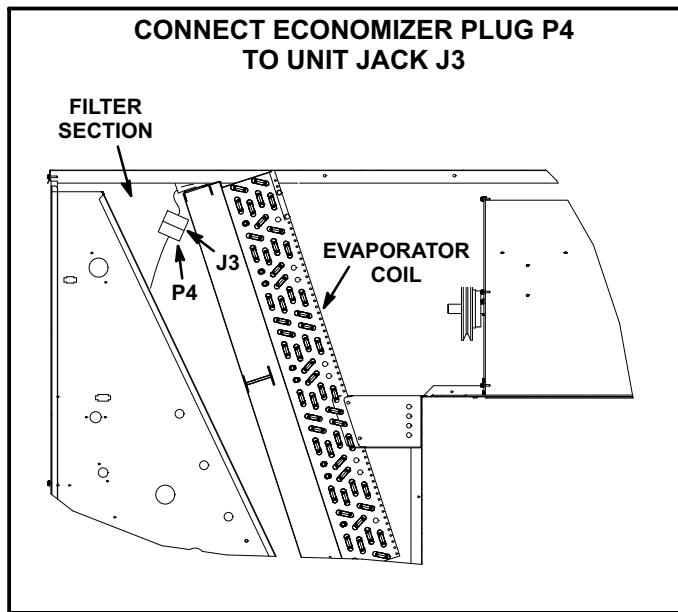

FIGURE 4
- 5- Disconnect jumper plug P3 from unit jack J3. Connect economizer plug P4 to unit jack J3 as shown in figure 4.